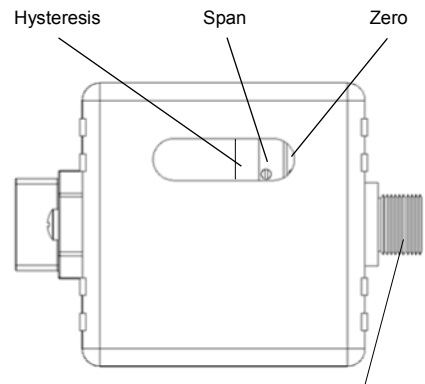

FIGURE 1 (QB2X, shown with 3D option)
- 4. Locate the plastic calibration access cap on top of the QBX valve and completely remove it. Located underneath are two adjustment trim pots, Zero "Z" and Span "S". See figure 1 for pots location.